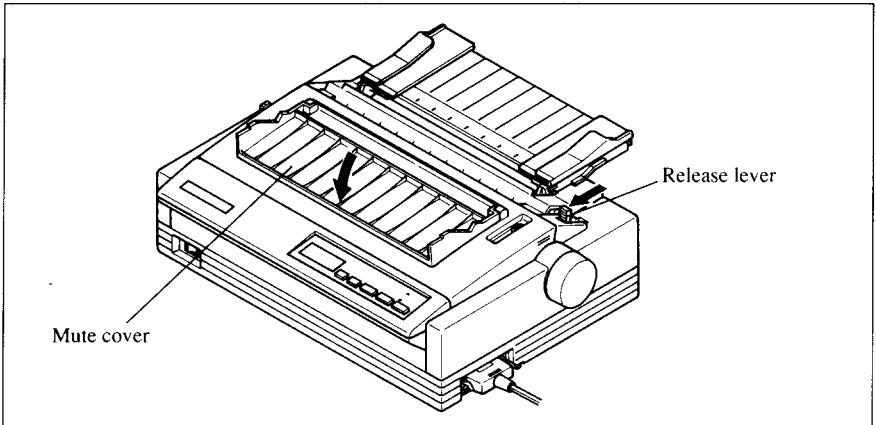

Figure 3-4. Opening the mute cover and correct lever position.
4. Open the mute cover on the front cover, as shown in Figure 3-4.